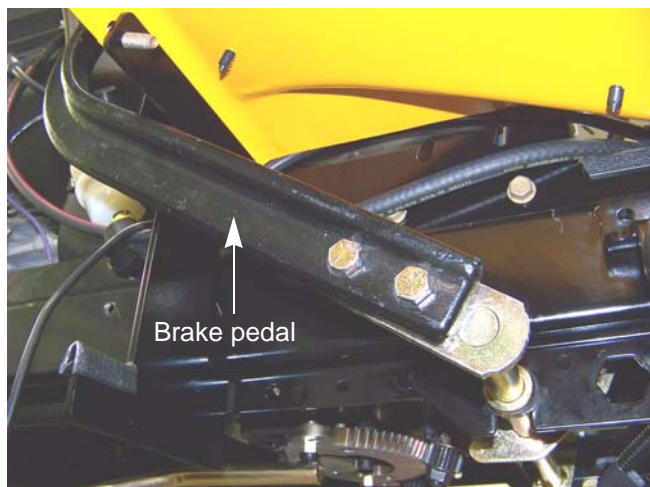

Figure 3.10
4. Disconnect the brake pedal by removing the two nuts and bolts that attach it to the brake pedal shaft using a pair of 1/2" wrenches. See Figure 3.10.